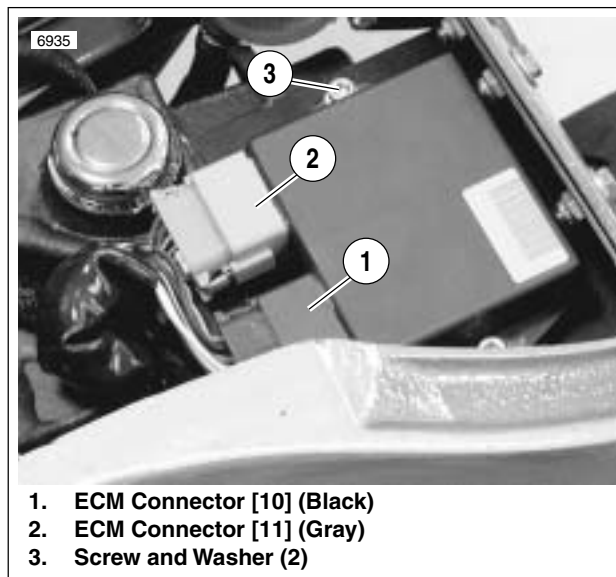

Figure 4-13. ECM Connectors
1. See Figure 4-13. Detach seat. Remove two screws and washers (3) to free ECM from ECM mounting bracket.